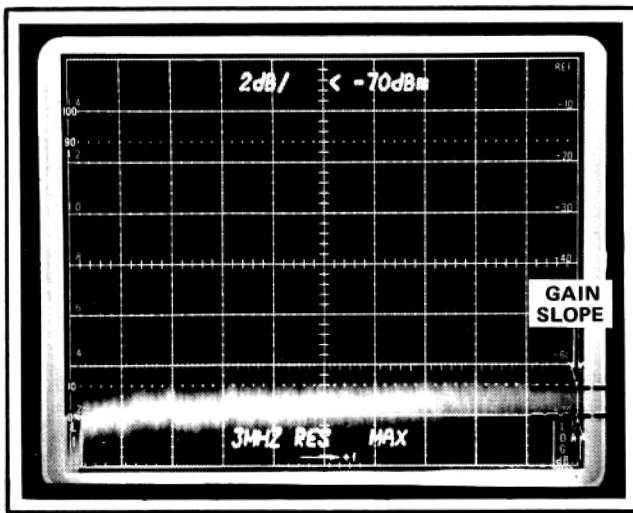

Fig. 3-3. Average noise level or gain increases as the frequency approaches 1.8 GHz. Maximum slope is 4 dB at 1.8 GHz.
h. Adjust the **VARIABLE** Gain control to position the average noise level so the gain slope, over the 1.8 GHz span, can be observed (see Fig. 3-3). The gain can increase to 2 dB at 1700 MHz plus an additional 2 dB (for a total of 4 dB) at 1800 MHz maximum.